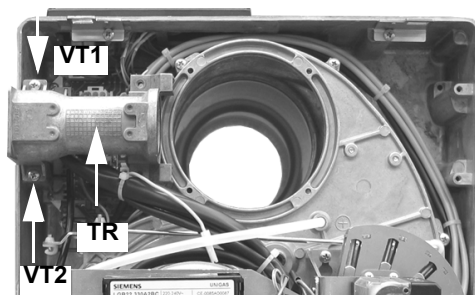

Fig. 16
- 5 Take off the flange and the combustion head together (Fig. 16).
7 Unscrew the **V**, rotate the head of 180 ° along its axis as shown in( Fig. 16), until the hole **F** is found. Fit the screw again(Fig. 16 - Fig. 17).